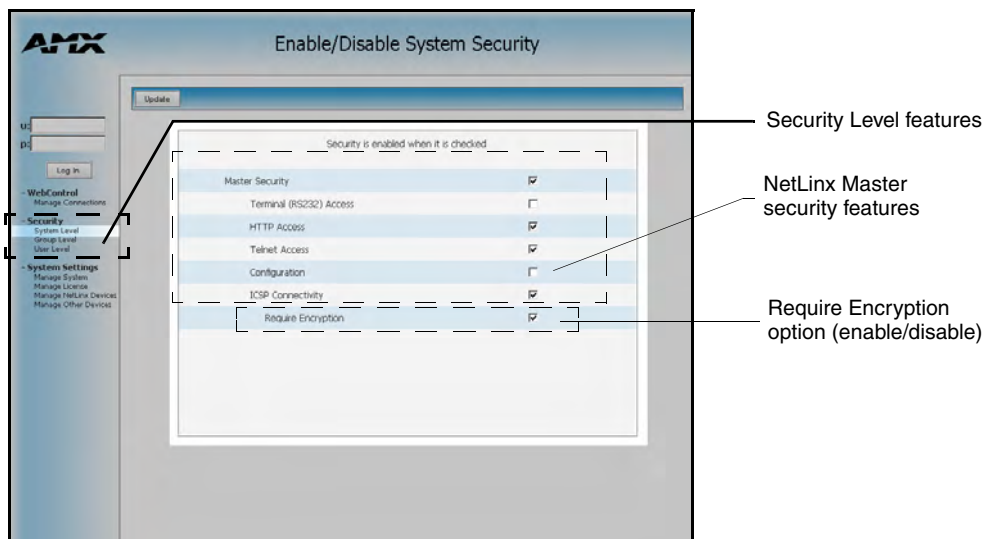

FIG. 51 System Level Security - Enable/Disable System Security page with selections
2. Click the **Security Level** link (*from within the Security section of the Navigation frame*) to open the System Security page. The **Master Security** checkbox selection (FIG. 51) toggles the appearance of the NetLinx Master security options.